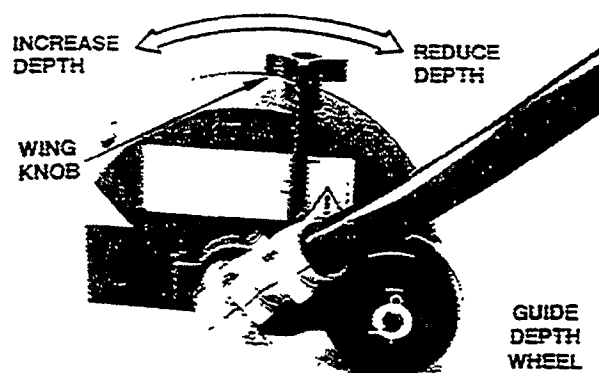

Figure 31
- Before using your edger you should adjust the depth of cut by rotating the blade shield to which the guide/depth wheel is attached (Figure 31).
- To adjust the blade's depth of cut, first loosen the wing knob as shown in (Figure 31).